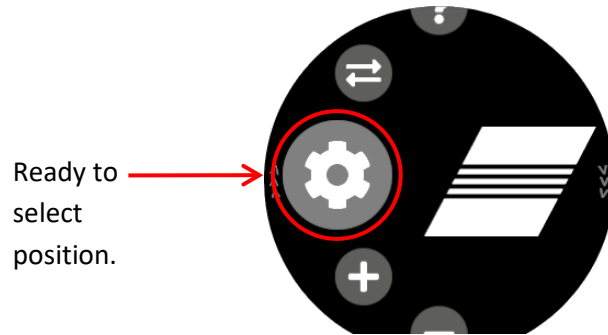

Figure 47: Ready to Select Position
3. Rotate the Base Unit controller and scroll so the **Calibration** button is in the ready to selection position. See Figure 47.